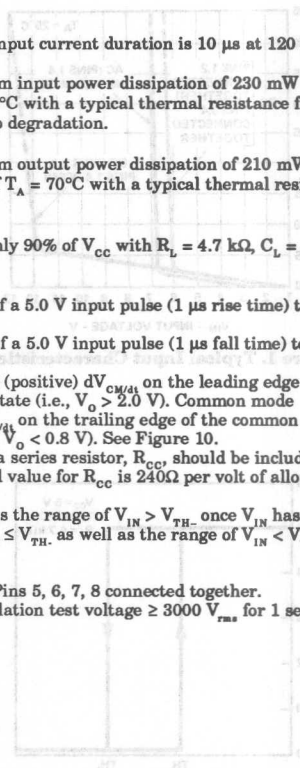

Figure 9. Typical Transfer Characteristics
10. The  $t_{PHL}$  propagation delay is measured from the 2.5 V level of the leading edge of a 5.0 V input pulse (1  $\mu$ s rise time) to the 1.5 V level on the leading edge of the output pulse (see Figure 9).
11. The  $t_{PLH}$  propagation delay is measured from the 2.5 V level of the trailing edge of a 5.0 V input pulse (1  $\mu$ s fall time) to the 1.5 V level on the trailing edge of the output pulse (see Figure 9).